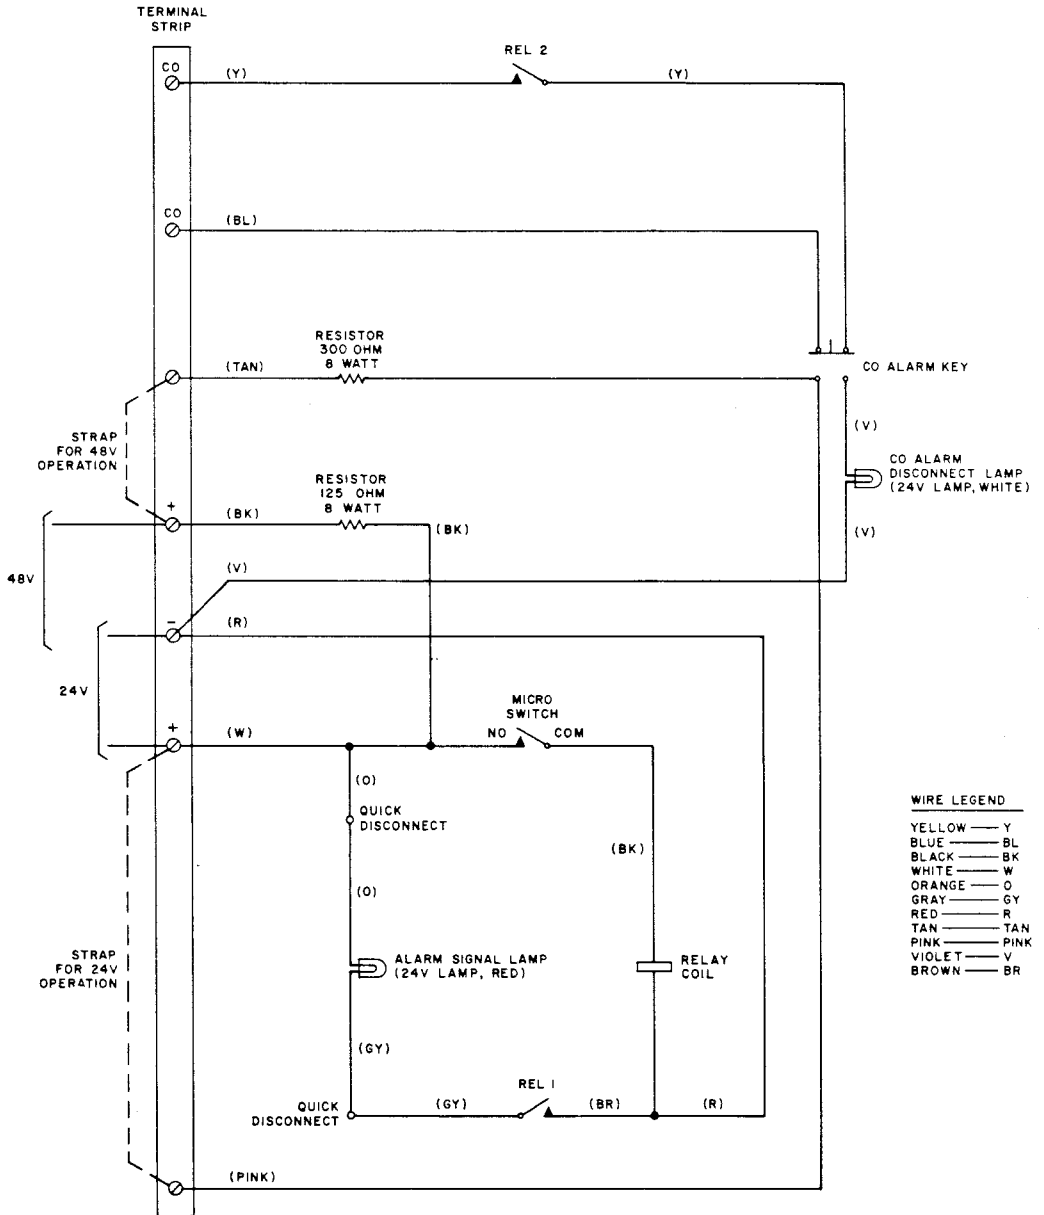

Fig. 8—8541-A Pipe Alarm Meter-Panel—Wiring Diagram
**3.12** Figures 8 and 9 illustrate the wiring diagram of the various electrical components in the Puregas Equipment Corporation 8541-A and 8541 pipe alarm meter-panels, respectively.